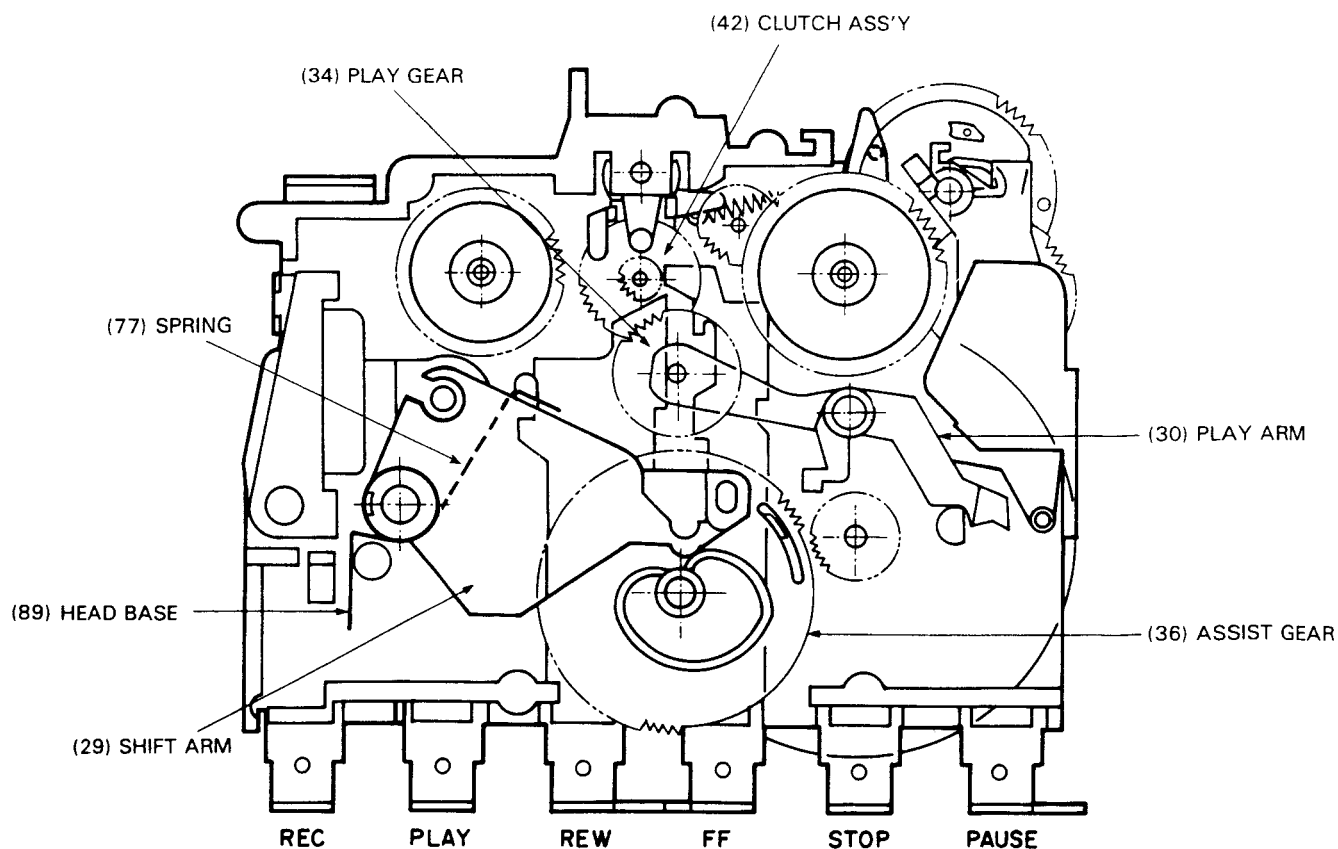
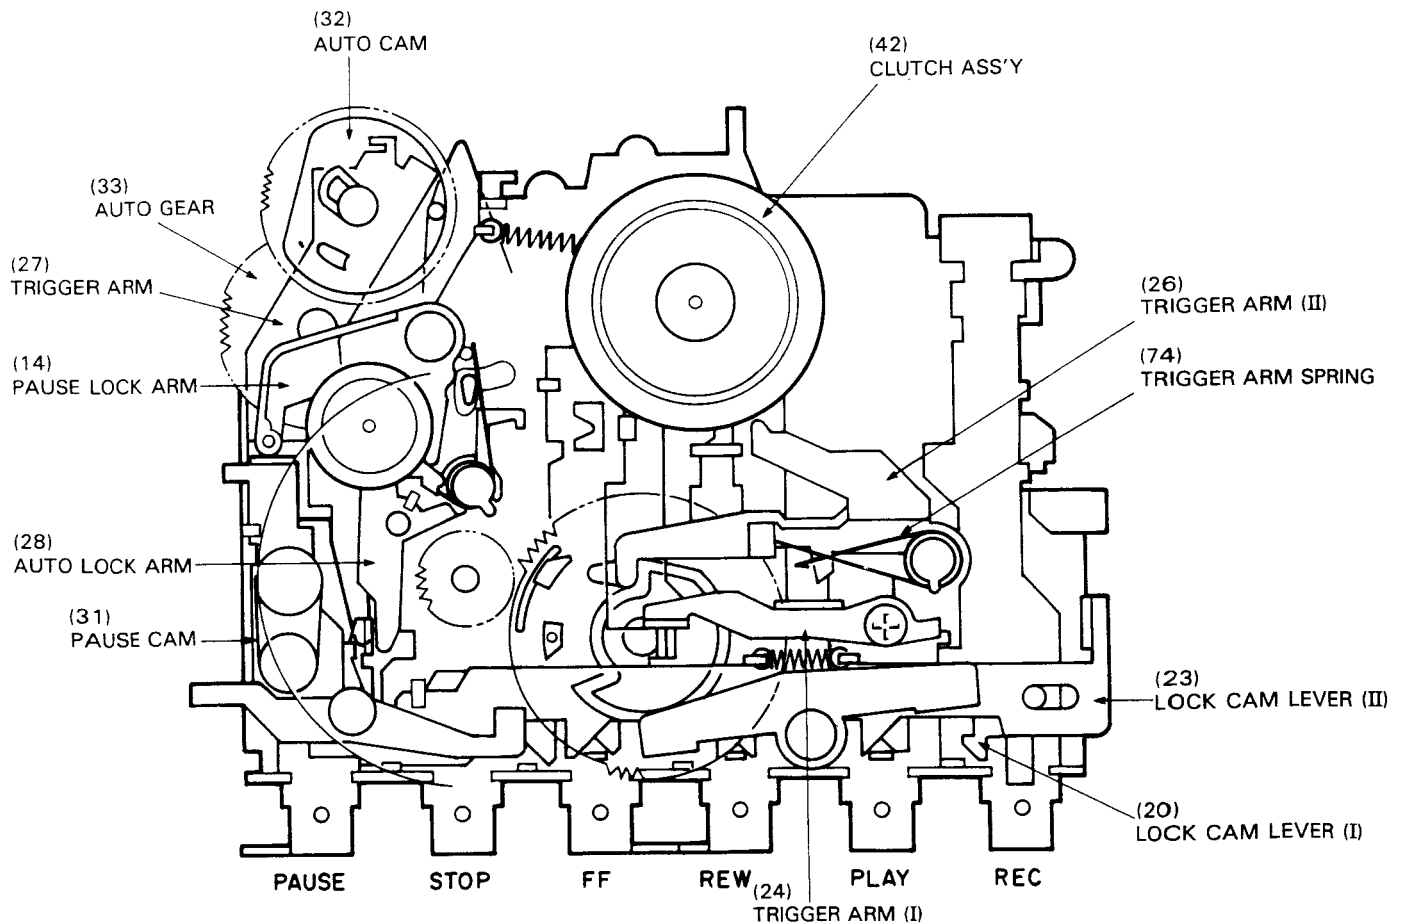

Fig. 1 Parts Discription (Front perspective view)
Fig. 3 Parts Discription (Rear perspective view)
1. Function Description of Main Parts (Fig. 1 ~ 3)
- 1-1. ASSIST GEAR (36) [for playback]: This is driven by the TRIGGER ARM (II) (26) and swings the SHIFT ARM (29).
- 1-2. SHIFT ARM (29) [for playback]: This is swung by the cam of the ASSIST GEAR (36) and moves up the HEAD BASE (89) via SPRING (72).
- 1-3. PLAY ARM (30) [for playback]: Control is made by the BOSS of the HEAD BASE (89). The TAKEUP REEL ASS'Y is operated by the PLAY GEAR (34) on the PLAY ARM (30).
- 1-4. CLUTCH ASS'Y (42) [for transmission of rotation in the Play, FF, REW mode]: This transmits the rotation from the flywheel to both left and right reels via clutch for fast-forward and rewind.
- 1-5. TRIGGER ARM (II) (26) [for playback]: This is swung by the PLAY LEVER (16) via TRIGGER ARM (I) (24), and triggers the ASSIST GEAR (36).
- 1-6. LOCK CAM LEVER (II) (23) [for ejecting]: This prevents the EJECT LEVER (22) from shifting during stop operation, and it also inhibits the auto stop operation in the stop mode.
- 1-7. LOCK CAM LEVER (I) (20) [for locking of operation lever]
- 1-8. TRIGGER ARM (27) [for auto stop]: During the auto stop operation, this is swung by the power transmitted from the flywheel via the AUTO PULLEY (38) and AUTO GEAR (33), and slides the LOCK CAM LEVER (I) (20).
- 1-9. AUTO SENSOR (21) [for auto stop]: This is swung by the T REEL ASS'Y (8) and locks the AUTO CAM (32) when the rotation stops.
- 1-10. PAUSE LOCK ARM (14) [for auto stop]: This inhibits the auto stop operation in the pause mode.
- 1-11. AUTO LOCK ARM (28) [for auto stop]: This inhibits the auto stop operation during the stop or pause mode.
2. Stop Status (Fig. 1), (Fig. 3)
- 2-1. The SHIFT ARM (29) is energized by the SPRING (77).
- 2-2. The cam of the ASSIST GEAR (36) comes contact with the edge of the SHIFT ARM (29).
- 2-3. The TRIGGER ARM (II) (26) is energized by the SPRING (74).
- 2-4. The cam located on the rear of the ASSIST GEAR (36) comes contact with the boss at the edge of the TRIGGER ARM (II) (26) so that the rotation of the GEAR (36) is locked.